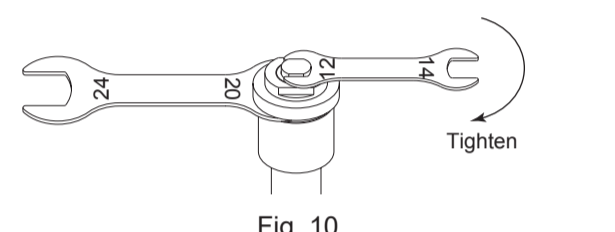

Fig. 10
- Insert the bolt into the Spindle, and tighten the flange by 12mm wrench (Fig.10).